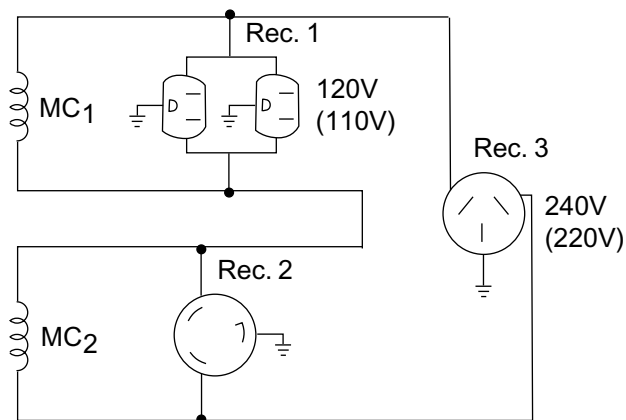

Figure 6: Full Power Switch Set for Dual-Voltage Output
- (e) Refer to Figure 6 for a simplified diagram of the circuit. The two main coils are shown connected in series. In this example, power is simultaneously available from the receptacles for both voltages. Higher voltage receptacle, Rec. 3, has power available up to rated power, however, Rec. 1 and Rec. 2 for the lower voltage can output only up to the rated power of each receptacle.